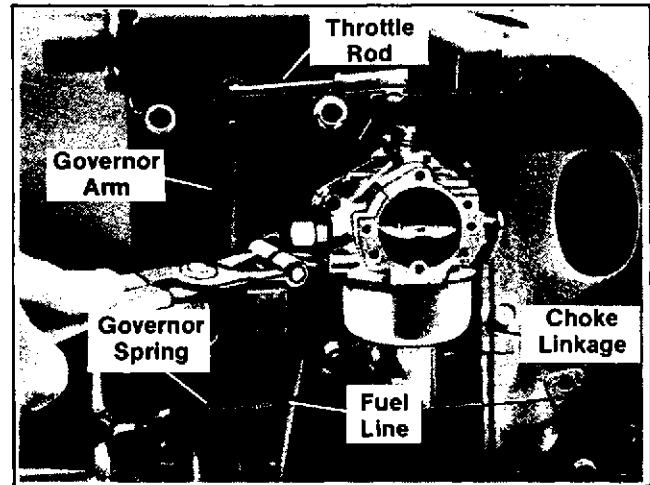

Figure 8-23. Connections to Carburetor
3. Attach choke linkage between choke control lever and choke lever on carburetor. Snap throttle rod onto ball that is connected to carburetor throttle lever. Attach governor spring between throttle control lever and governor arm. Connect the fuel line from the fuel pump outlet side to the carburetor using a spring clamp. (See Figure 8-23 for connections.)